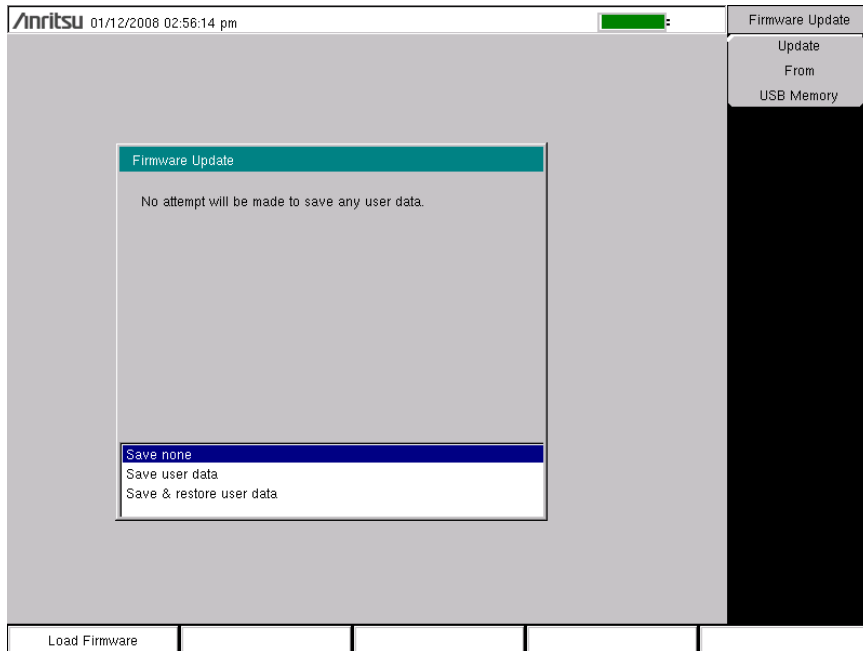

Figure F-5. Firmware Update Menu
3. The Firmware Update menu is displayed, the Firmware Update dialog box (Figure F-5) shows “Save none” selected, and a cautionary statement is displayed regarding user data. Use the **Arrow** keys to select an option. The choices are: